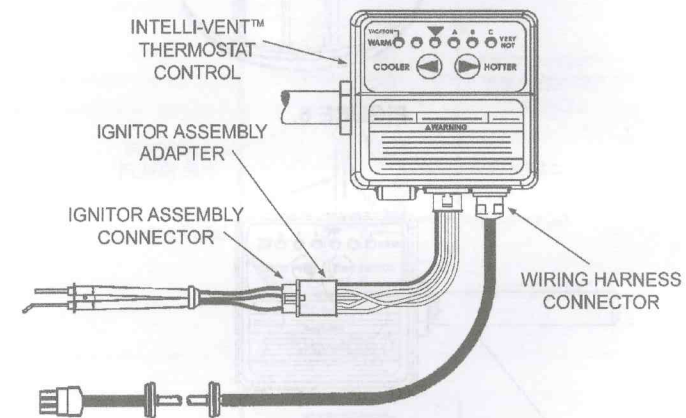

FIGURE 14.
18. Locate the "Ignitor Assembly Adapter" from the replacement kit and plug the male end into the Intelli-vent™ Thermostat Control, (184960 Series), see Figure 14. Note: The connector is "keyed" so it can only be inserted one way. Make sure the connector is properly aligned before attempting to insert. Do not force the connector or damage to the control will result.
19. Locate the wiring harness and connector that comes out of the combustion chamber of the water heater and plug the male end of the connector into the female end of the "Ignitor Assembly Adapter", see Figure 14.